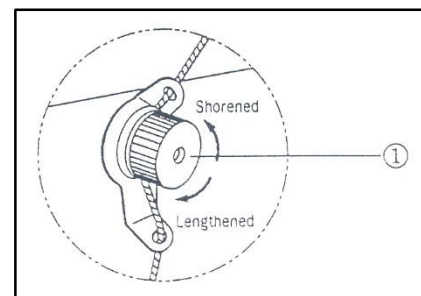

Figure 7.8
As shown in Fig. 7.8, rotating the pre-tension screw (1) clockwise, the length of trimmed thread will be reduced. The optimum length of the remaining thread after trimming is 30 - 40 mm.